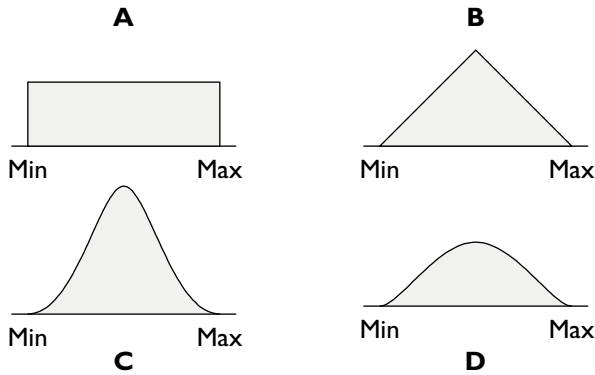

Figure 8-7. Risk profiles
**Step 2. Select the Appropriate Risk Profile.** The risk profile is intended to model the most likely distribution of potential costs for each activity. Profile A, for example, is suggesting that the cost of the activity could very well fall anywhere within the overall range. (See Figure 8-7.) A triangular distribution that peaks at the most likely cost is the most common choice, as it represents a very reasonable assumption. Entering data for this step consists of a simple push of a button.